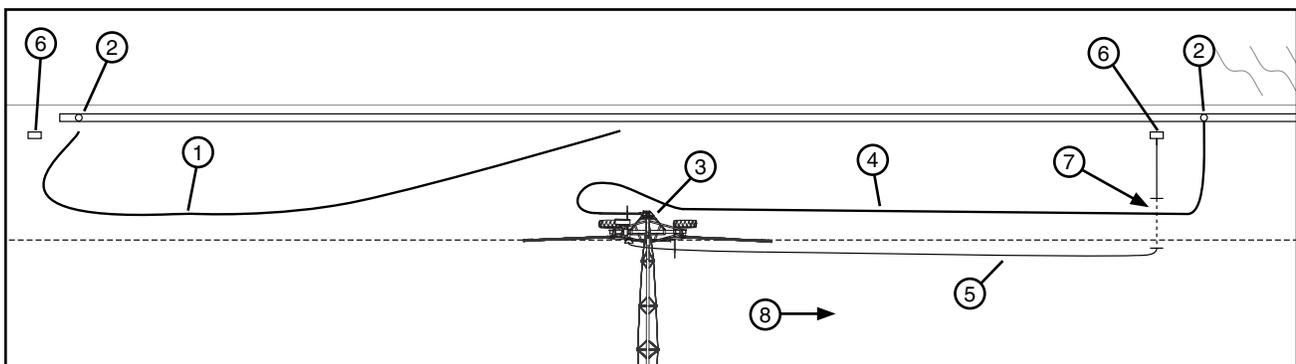

Figure 48-2 1. First Hose 2. Shut Off Valve 3. Swivel Inlet 4. Second hose 5. Electric Cord 6. Power Pedestal 7. Buried Cable Location 8. Direction of Travel
7. Unlatch and disconnect first hose from swivel inlet. Positioning the hose to drain away from the cart path. See Figure 48-2.
8. With second hose connected to shut off valve, position second hose, connect to swivel inlet, and latch in place. Reposition the end of field/hose stop for the length of the second hose being used. See Figure 48-2.
- Position the electric cord as shown. When applicable, prevent interference between the electric cord and the hose by burying the electric cord in the ground as shown. Allowing for the hose to travel over the buried portion of the cord. See Figure 48-2.